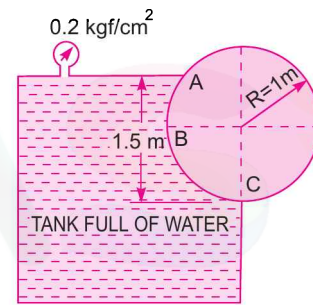

Fig. 3.35
**Problem 3.28** Fig. 3.35 shows the cross-section of a tank full of water under pressure. The length of the tank is 2 m. An empty cylinder lies along the length of the tank on one of its corner as shown. Find the horizontal and vertical components of the force acting on the curved surface ABC of the cylinder.